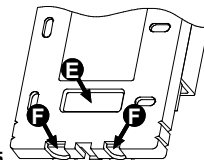

Fig. 5
Back cable entry: Open the hole (E) Fig. 5, with a screwdriver.
Bottom cable entry: Open one or both holes (F) Fig. 5, with a screwdriver.